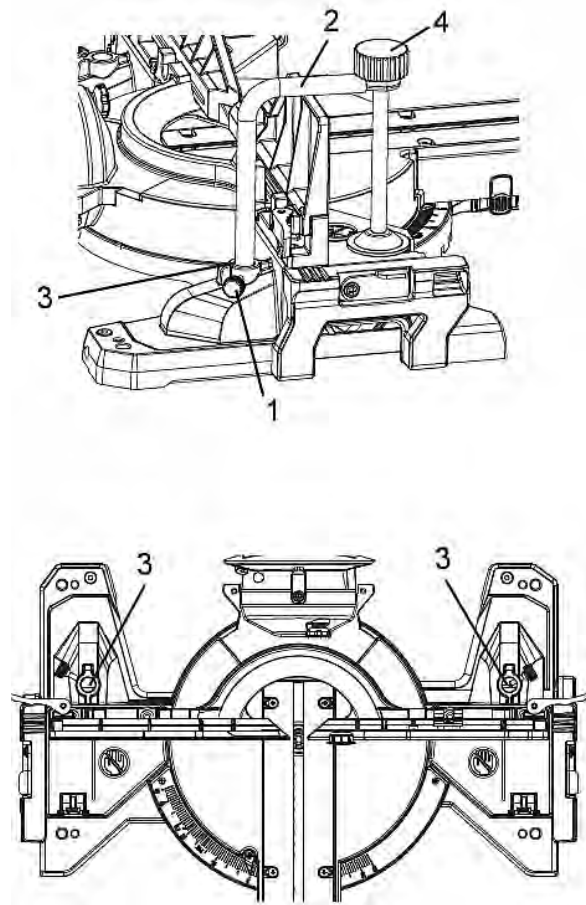

Fig. 9: Attaching the downholder
7.3 Attaching the downholder (Fig. 9)
Step 1: Loosen the locking knob (1) from the back of the saw.
Step 2: Place the hold-down clamp (2) in one of the mounting holes (3).
Step 3: Tighten the locking knob (1).
Step 4: Loosen the knob (4) to move the clamp up or down to tighten the workpiece.
Step 5: The hold-down clamp (2) can be inserted into one of the mounting holes (3) behind the fence.